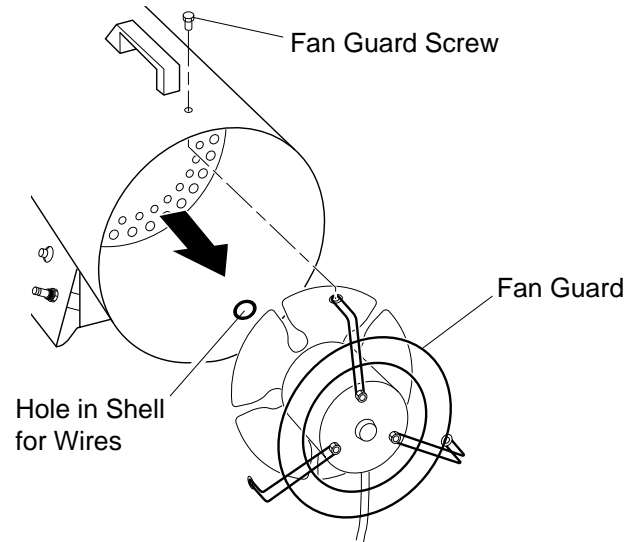

Figure 7 - Removing Motor and Fan Guard from Heater
4. Set heater on its base. Remove three screws that attach fan guard to heater shell (see Figure 7).
5. Remove motor and fan guard from heater shell. Carefully pull the green, black, and white motor wires from hole in shell (see Figure 7).